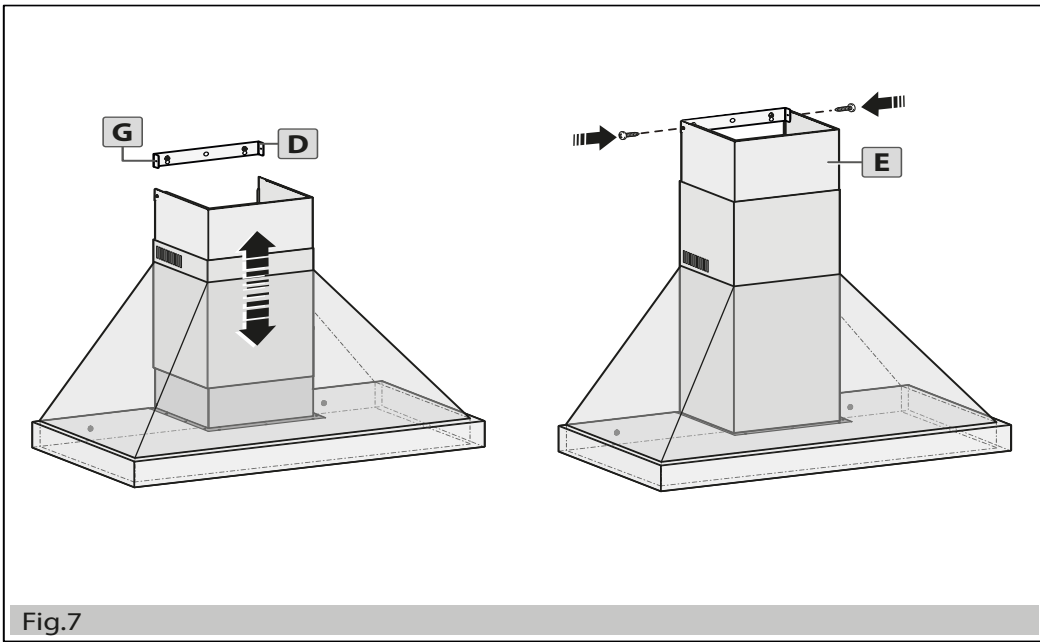

Fig.7
- 8) Adjust the elements of the telescopic chimney and fix it to the bracket (D) (see figure 7).